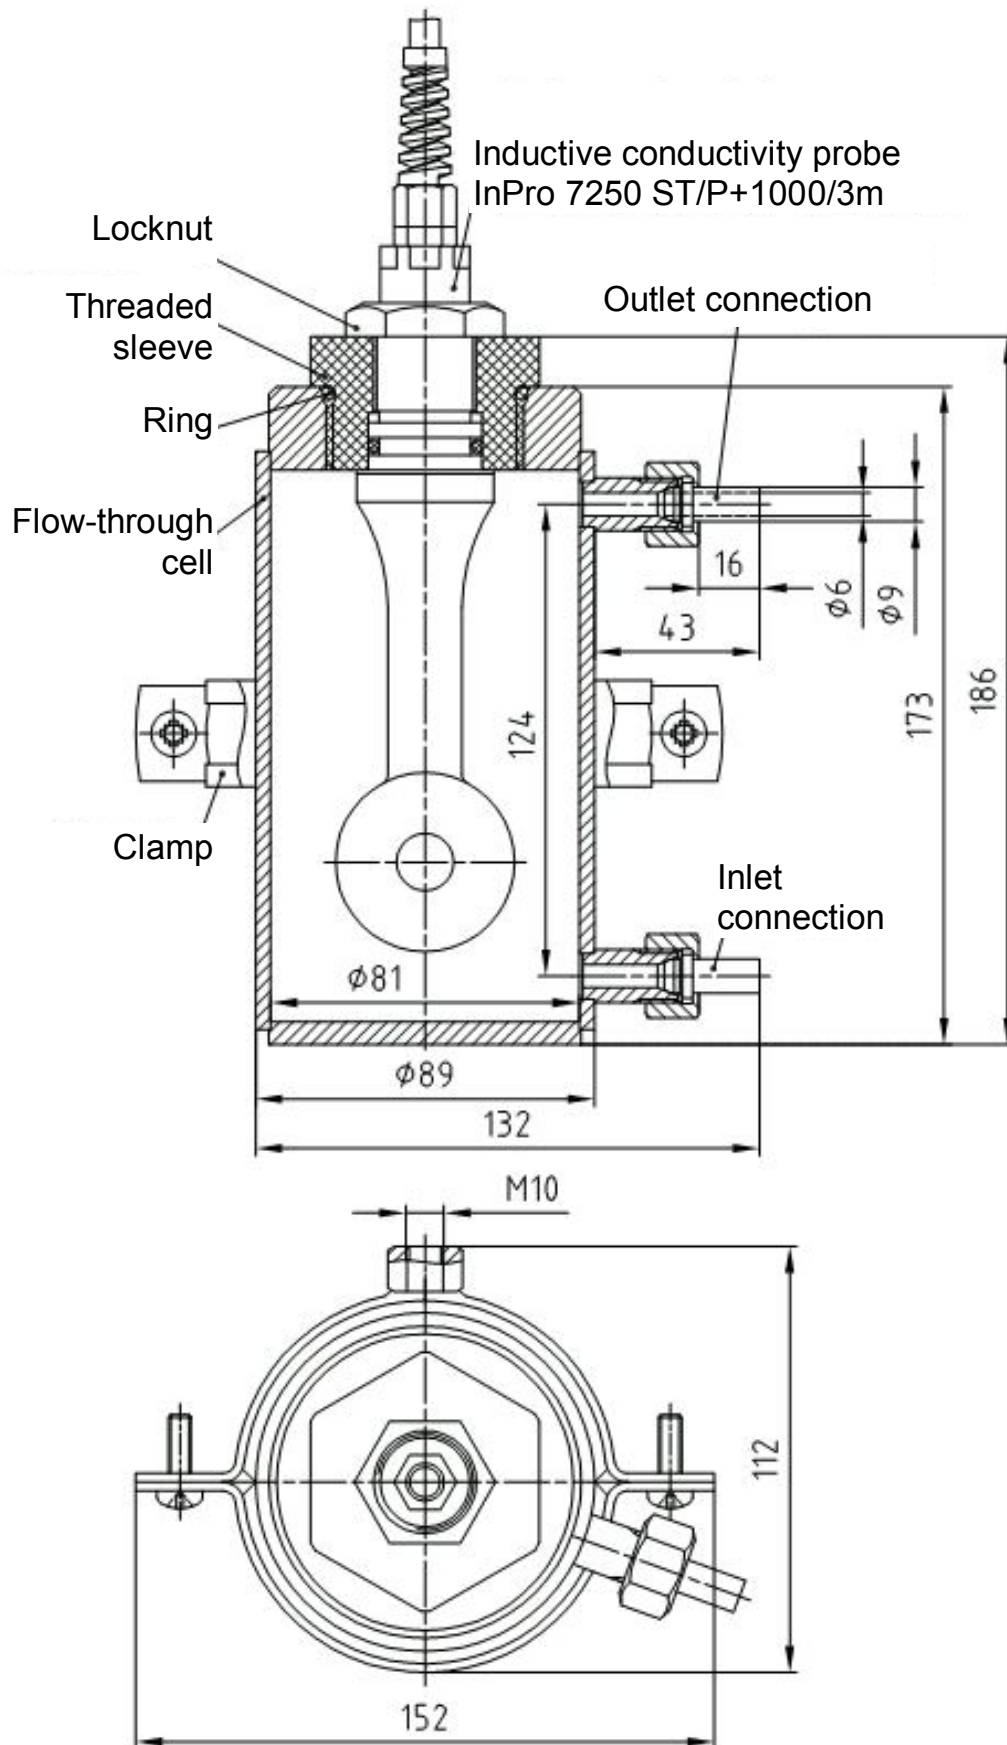

Fig.2.4 – Installation of the conductivity probe in a flow-through cell
2.3.4.1 Installation of the conductivity probe in a flow-through cell is as shown in Fig. 2.4. Use is made of the BP56.02.310 flow-through installation kit supplied upon agreement with the client.